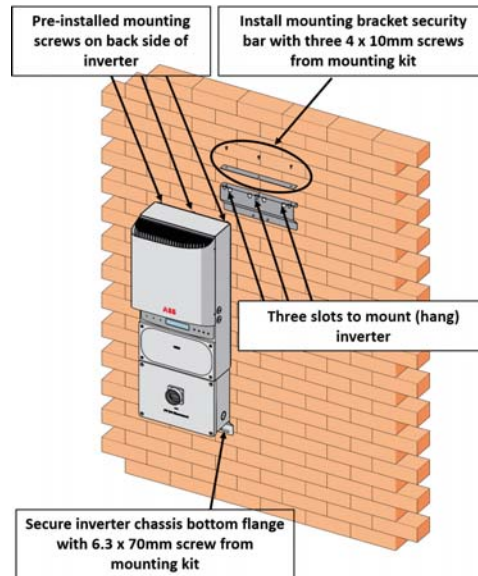

Figure 8 - install mounting bracket security bar and secure chassis bottom flange
Step 3: Secure the inverter chassis bottom flange to the mounting surface using the fifth 6.3 x 70mm screw provided. Note that the bottom flange is not a load bearing component. See Figure 8.
Step 4: Install the mounting bracket security bar on top of the installed mounting bracket into the three pre-drilled screw holes using the three 4 x 10mm screws provided. See Figure 8.